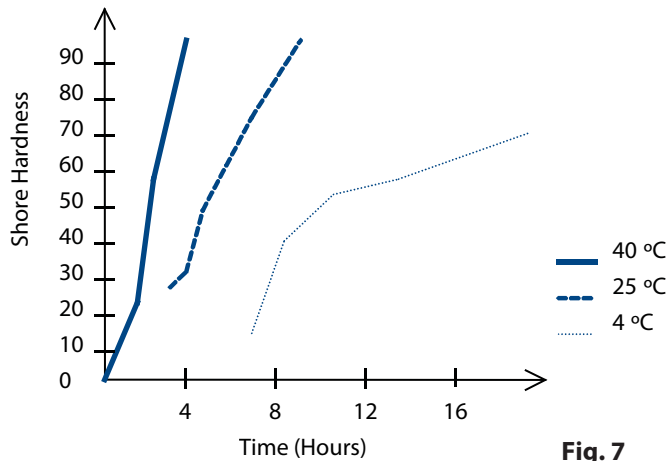

Fig. 7
Remove the entry ⑥, spread the cable cores out for the compound packing. Pack the compound between the cores shown. See notes below and Fig. 7 for compound preparation.
Allow the compound to cure. (See Fig. 7 for Curing Times). Untighten the sub-assembly ① and ② from the entry ⑥ to enable inspection. The rubber pot ⑤ may be removed for inspection to ensure that the packing is satisfactory.